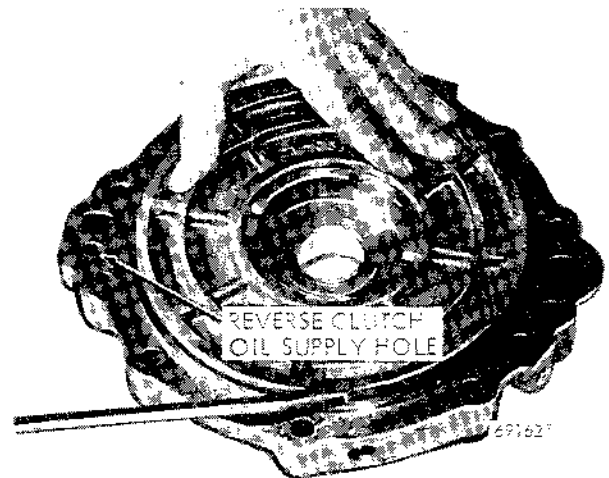

Figure 11
6. Force compressed air into the reverse clutch oil supply hole in the adapter to remove the clutch piston, Figure 11. Then remove the "O"ring from the inner hub of the adapter and the clutch piston.